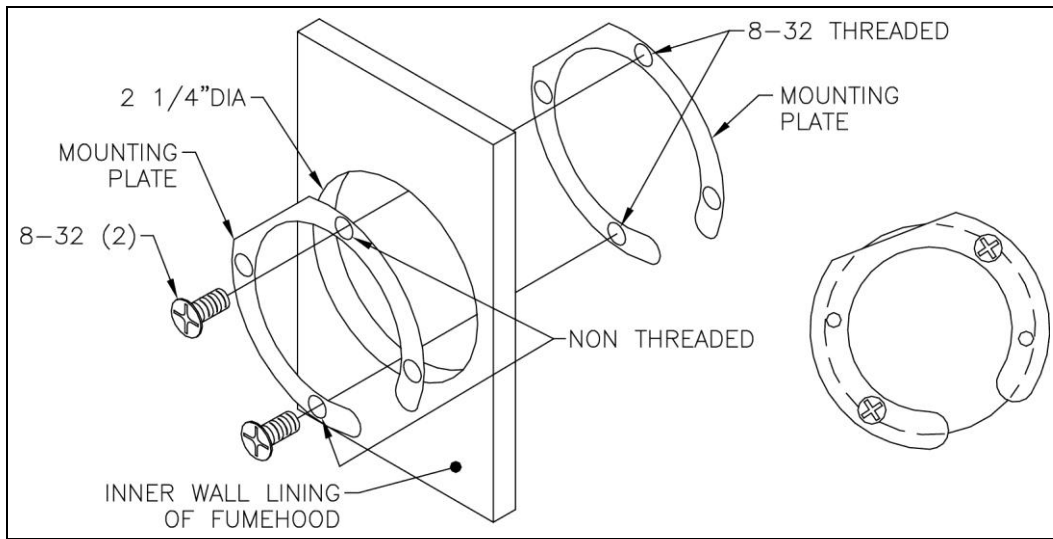

Figure 3: Mounting Plates
1. Install MOUNTING PLATES to fume hood liner wall using 2 of the 8-32 × 5/8-inch screws provided. The MOUNTING PLATES must be configured as shown in Figure 3.